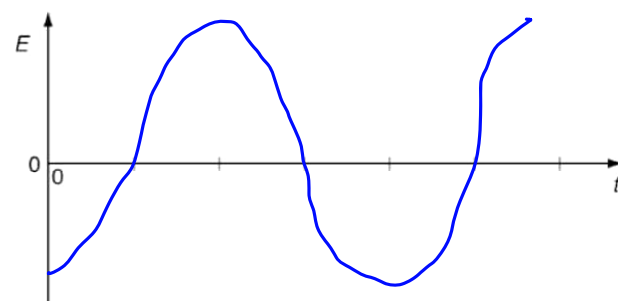

Fig. 6.4
- (ii) Complete Fig. 6.4 to show the variation with time  $t$  of the e.m.f.  $E$  induced in the secondary coil. [2]